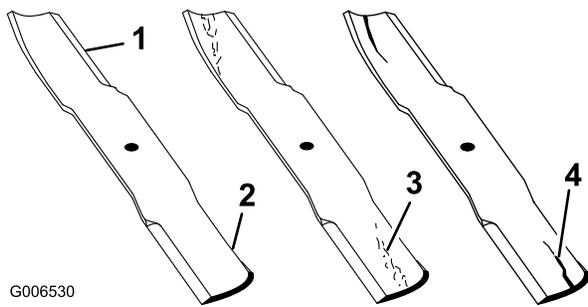

Figure 92
1. Inspect the cutting edges (Figure 92). If the edges are not sharp or have nicks, remove and sharpen the blades. Refer to Sharpening the Blades (page 61).
2. Inspect the blades, especially the curved area (Figure 92). If you notice any damage, wear, or a slot forming in this area (Figure 92), immediately install a new blade.